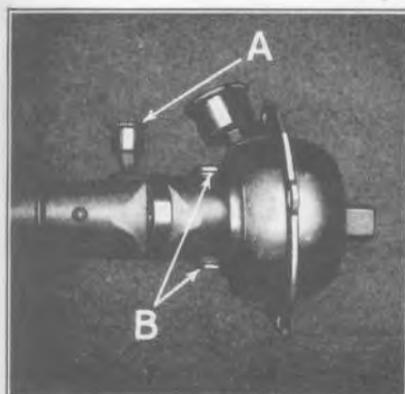

Fig. 331
**575** Run out grease cup (See "A" Fig. 331) and the two joint housing plugs "B".
- 592 Insert the two joint housing plugs (See "B" Fig. 331) into drive shaft tube.
- 593 Fill grease cup with grease and screw it into shaft (See "A" Fig. 331), then remove cup, again filling it with grease and screwing it down into shaft. Drive shaft assembly is now completed.